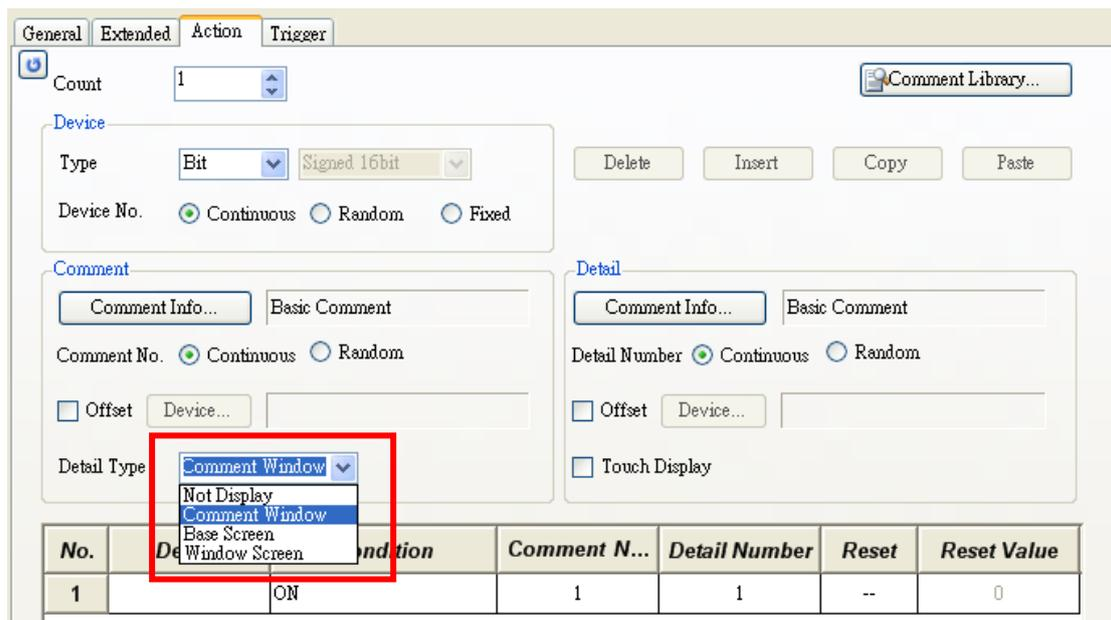

Fig. A-4-9 Comment Window Setting
- When the alarm is set to the comment window, the language in the comment window will be switched based on “Language Setting – All Pages”. If “Language Setting – Current Page” is selected, there will be no action of language switch. For the setting of the comment window, please see Figure A-4-9 below.